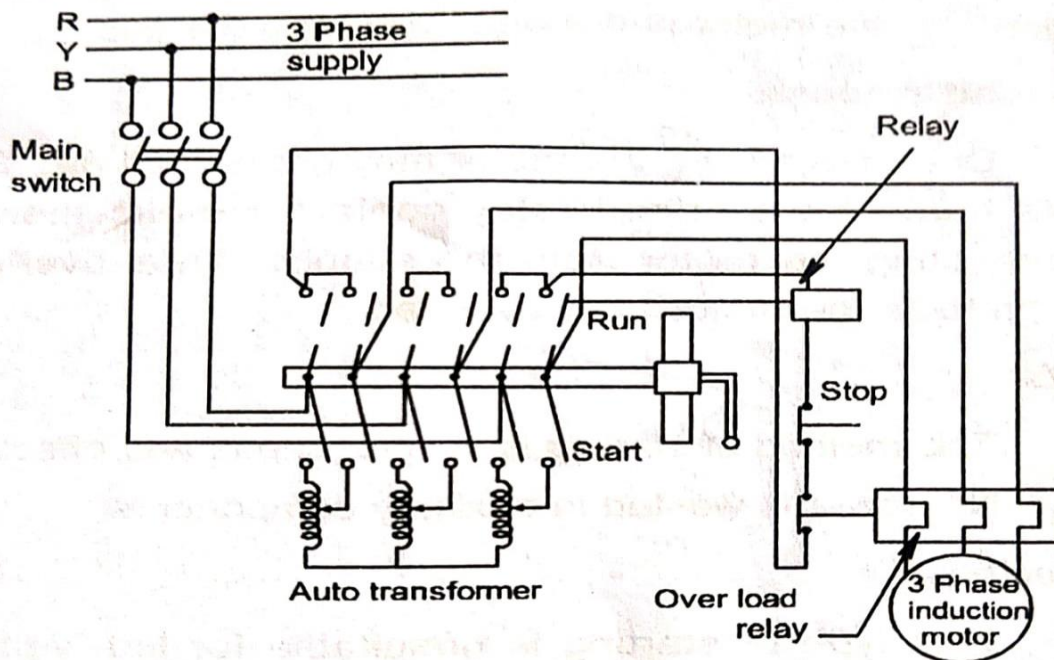

Fig.3.2
- The manually operated type is having a multiple double throw switch as shown in Fig.3.2